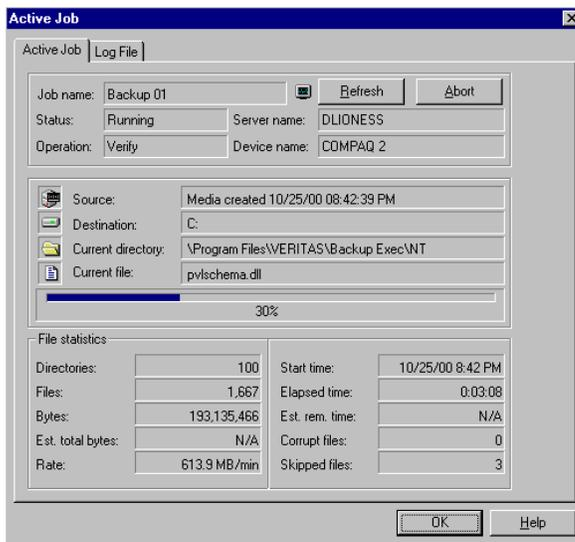

Figure 10: Active Job dialog
4. As shown in Figure 10, the Active Job dialog box will display the backup job progress.